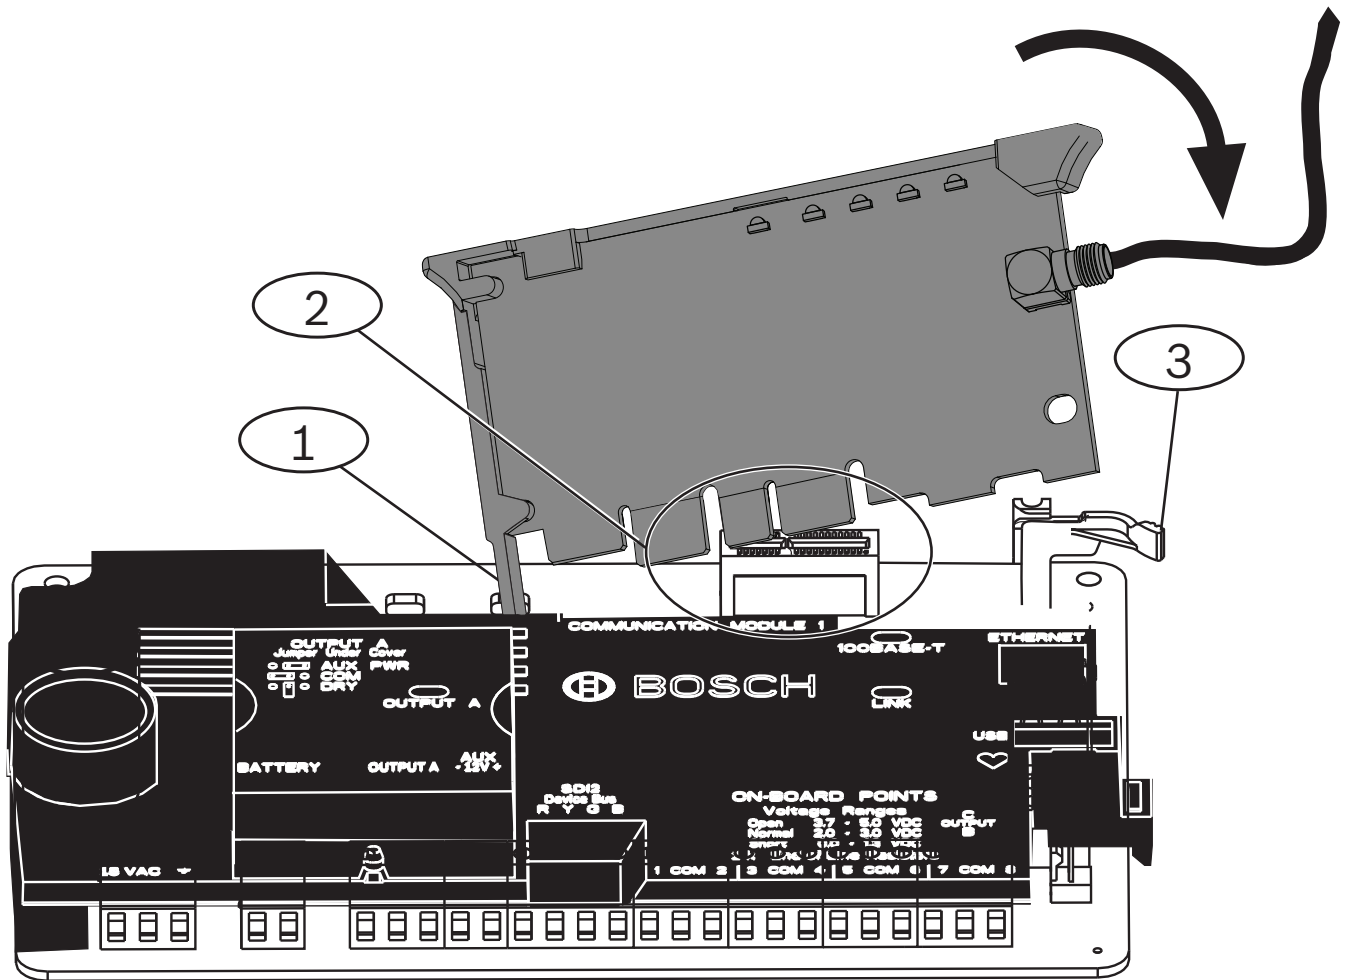

Figure 3.3: Communicator installation (B6512 control panel shown)
1. Put the support leg into the support hole labeled X. Refer to *Figure 3.3*.